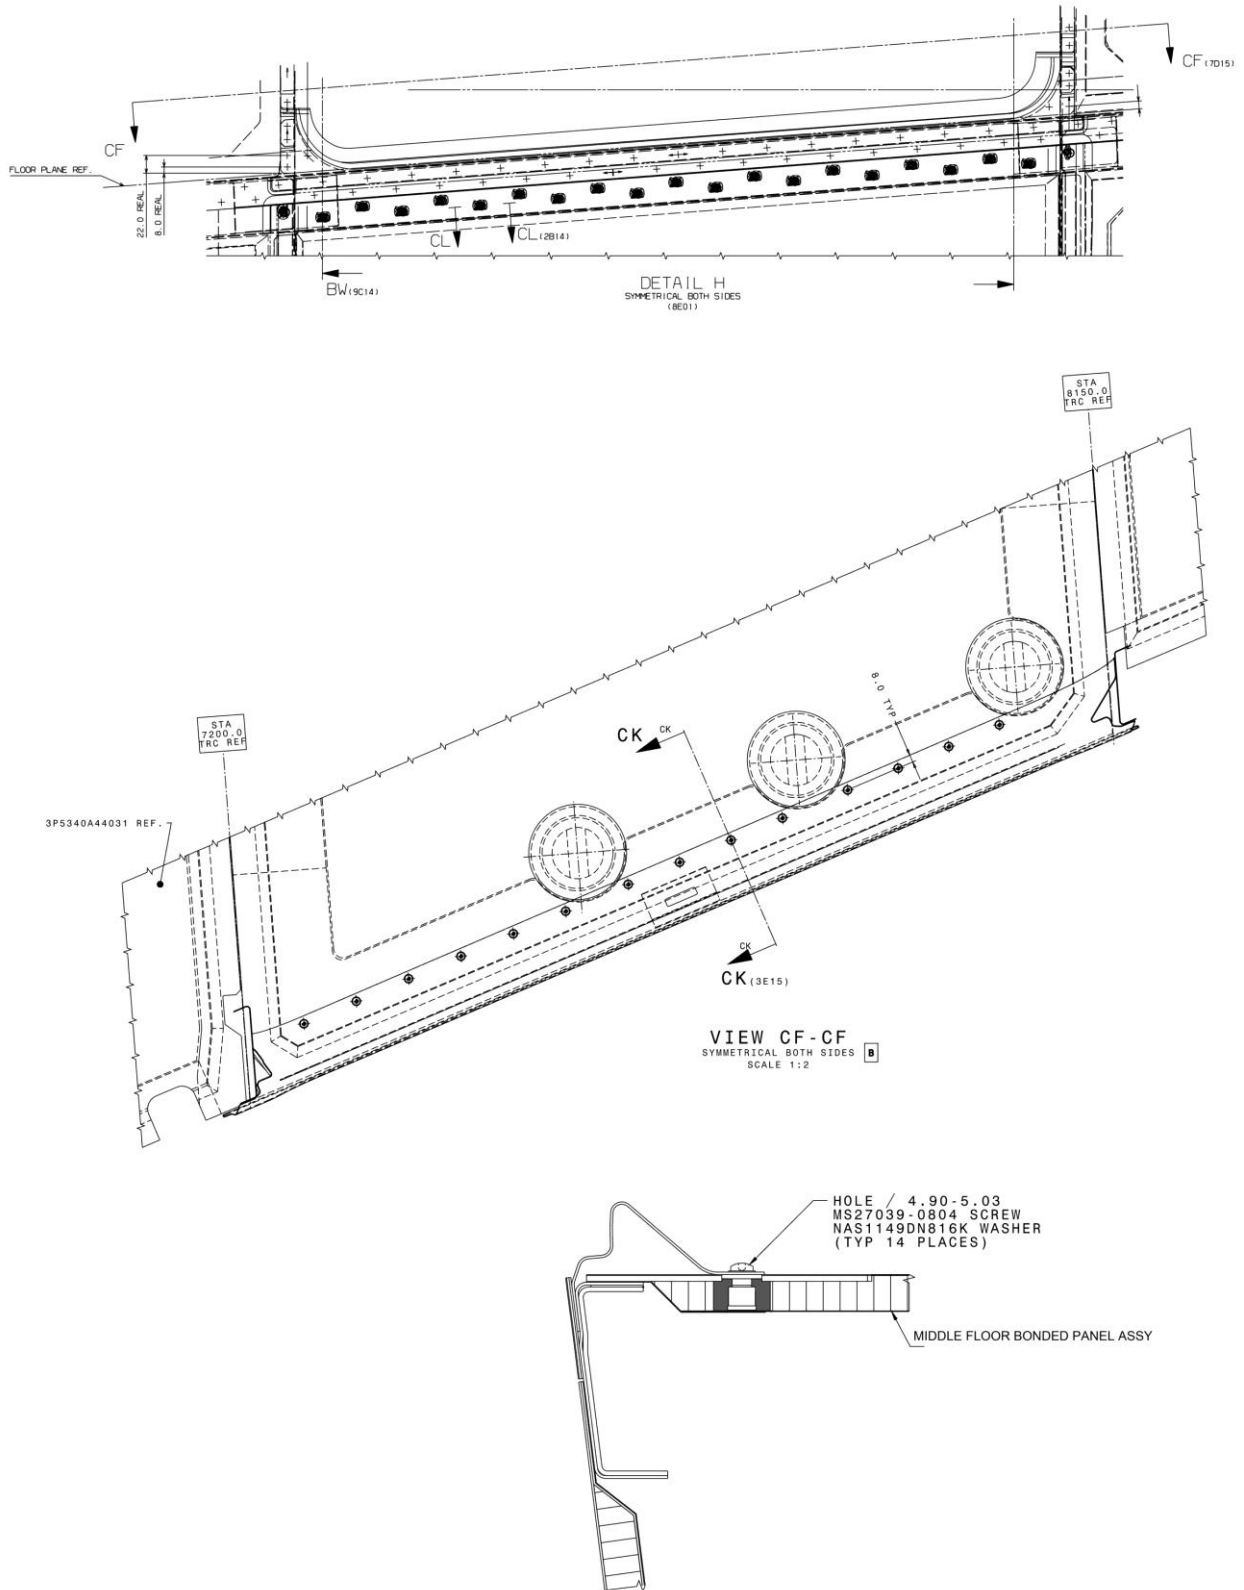

Figure 10 – Panel assy installation – Detailed view
12. Referring to Figure 7 thru Figure 10, remove the rivets connecting the fuselage structure to the baggage floor panel assy, then remove it.
18. Referring to Figure 7 thru Figure 10, install the new baggage floor panel assy on the fuselage structure using rivets recalled on figures.